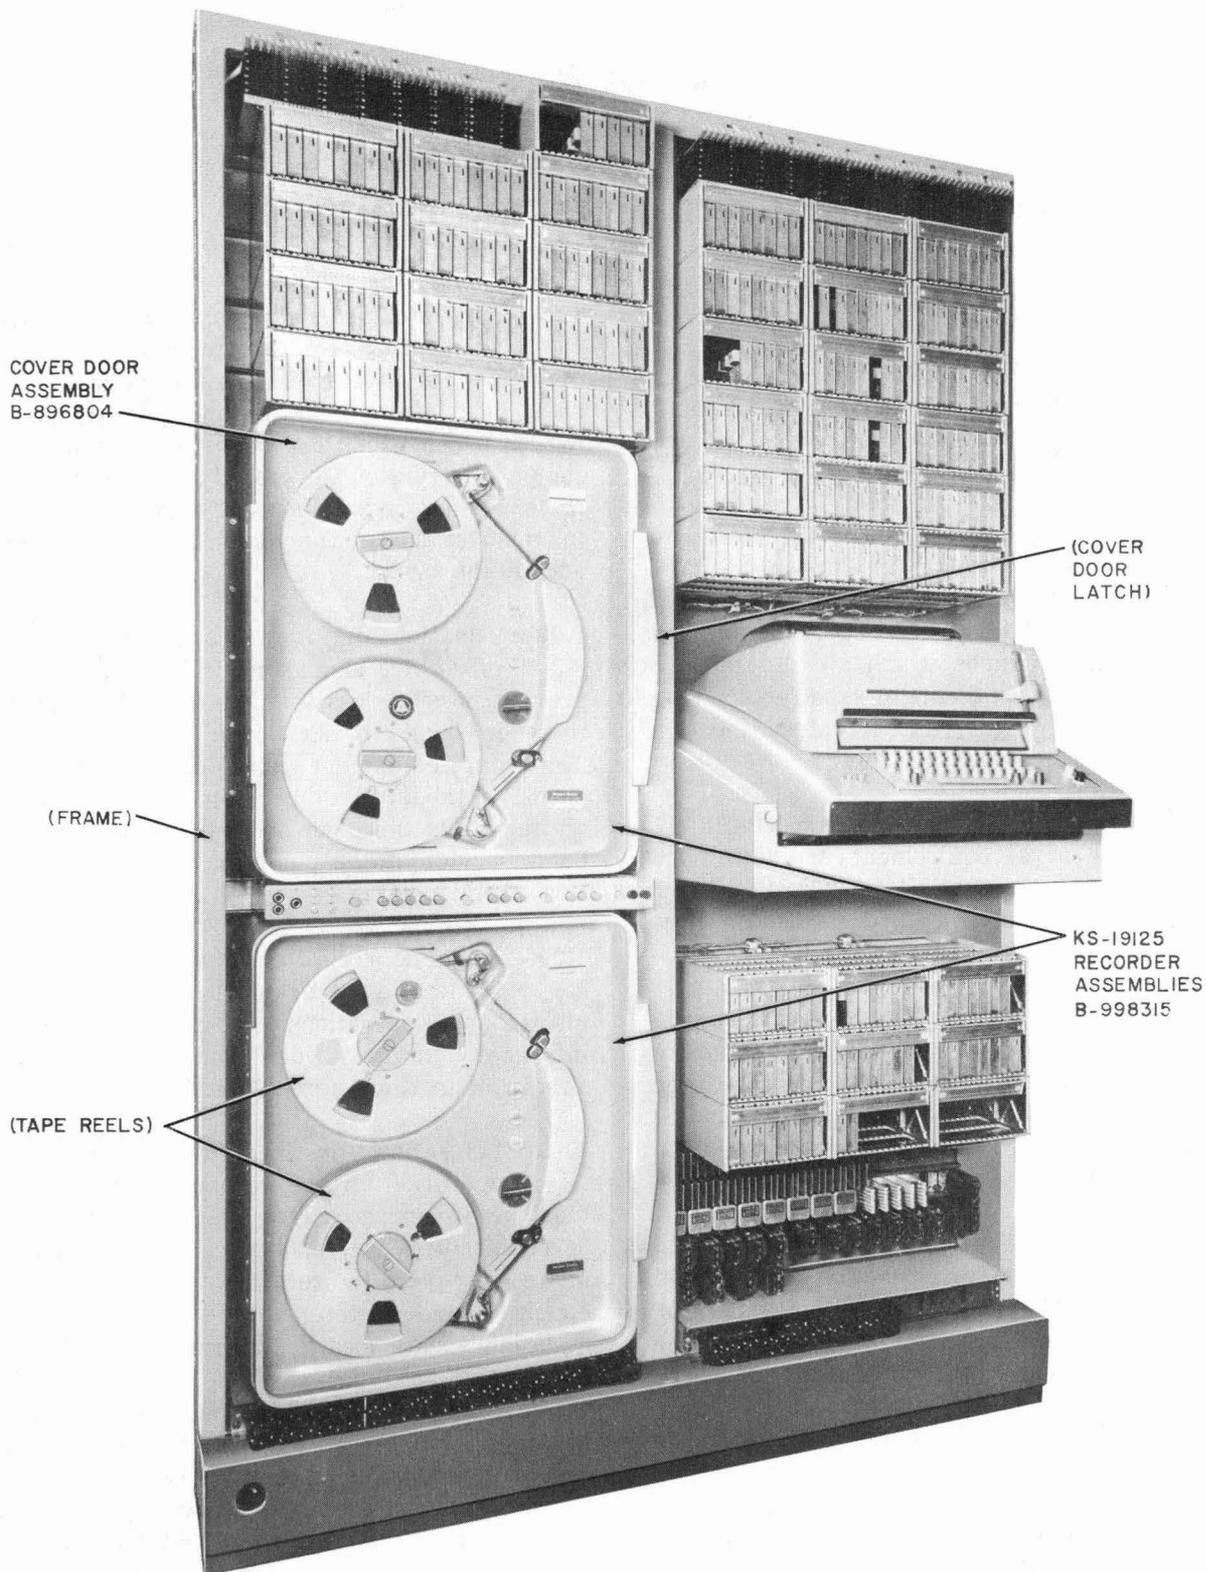

Fig. 1—KS-19125 L3 Recorder
1.01 This section covers the KS-19125 L3 recorder (Fig. 1) used for digital recording of automatic message accounting (AMA) data in central offices.